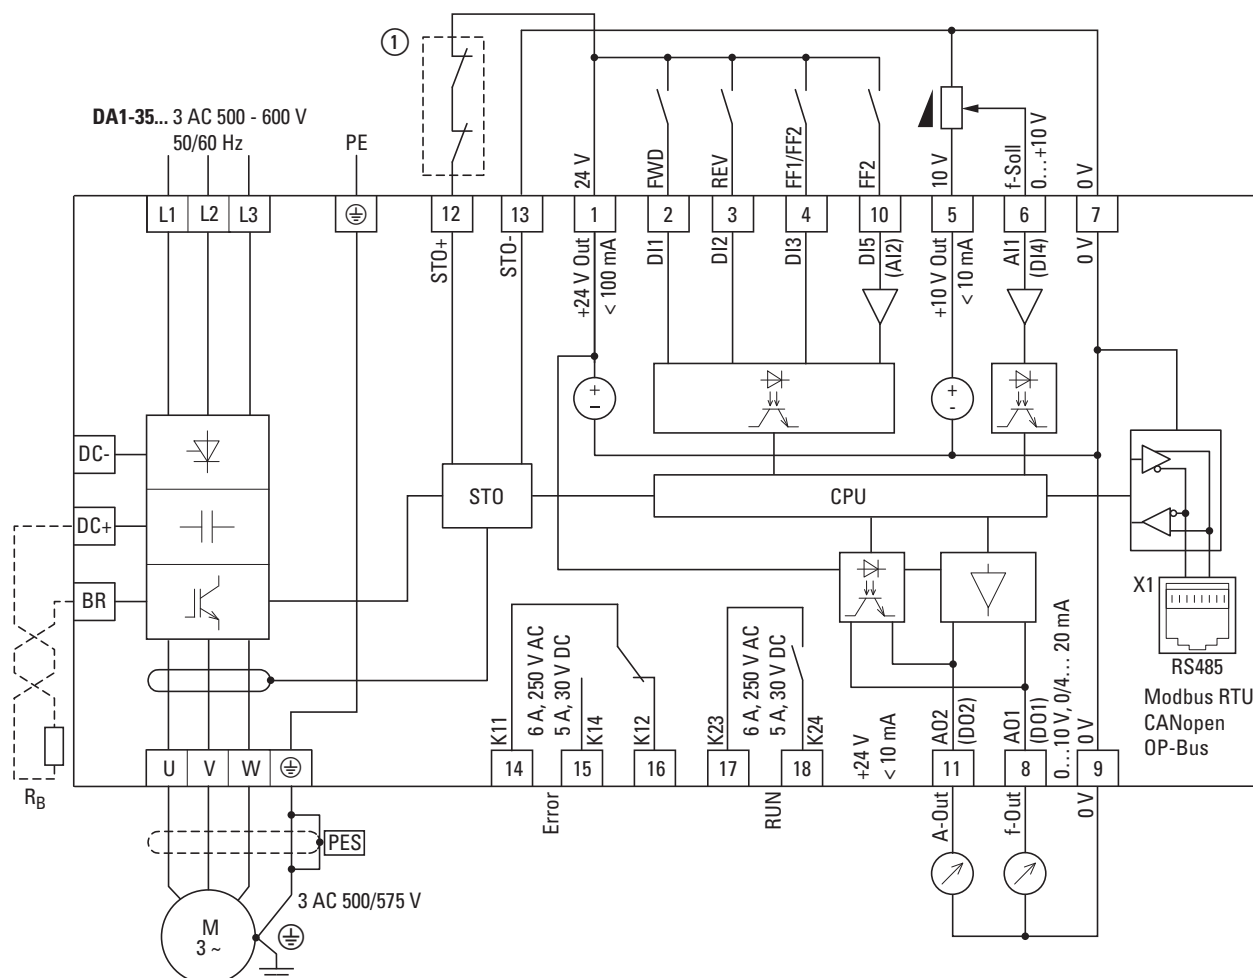

Figure 90: DA1-35... block diagram in frame size FS4
① Direct enable signal for STO function or relay: Safe Torque Off (STO), SIL 2 (EN 61800-5-2) as in → Figure 90, page 121.